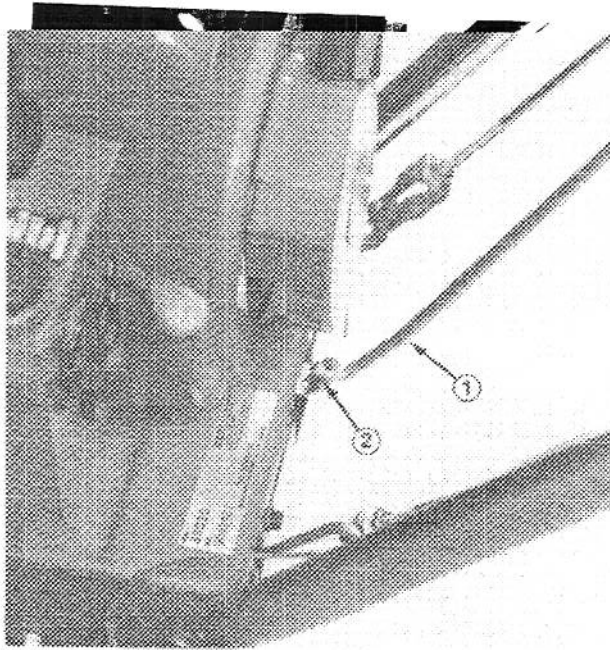

Figure 10
2. Install speed selector rod into selector arm, add one flat washer on the selector rod and secure with cotter pin (Fig. 10).